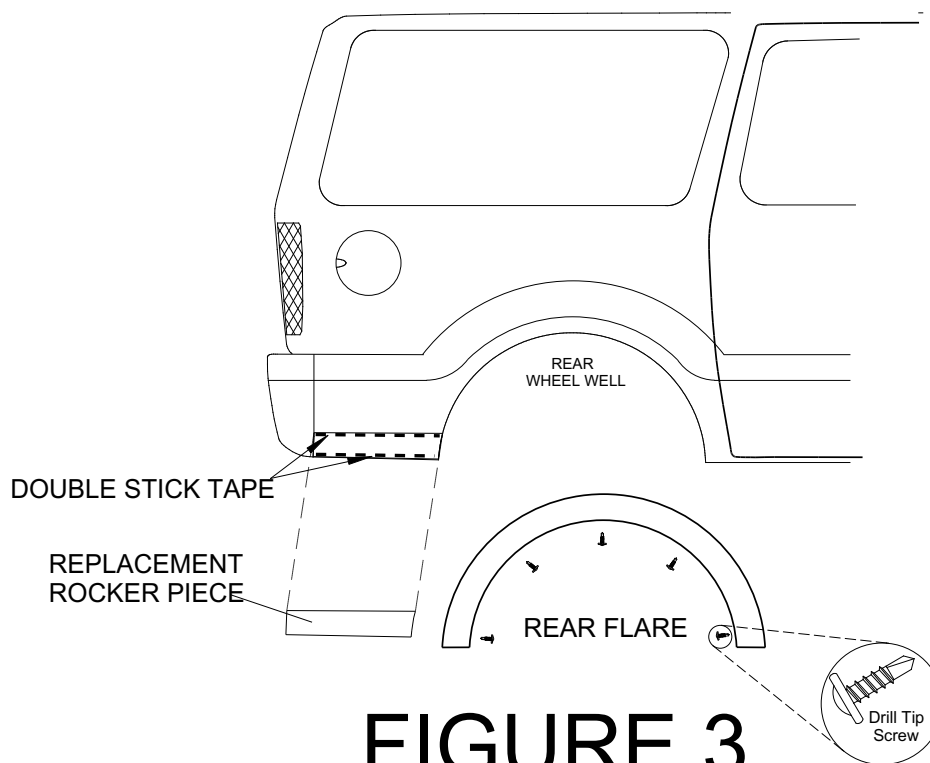

FIGURE 3
- (A) Removing factory rocker panel pieces
- (B) FOR PROPER INSTALLATION OF TAPE, the vehicle, the parts to be installed, and the tape should be between 60° and 110°F for proper adhesion.
- (C) Adhere a strip of double stick tape along the top and bottom edges of the Replacement Rocker Panel Piece. Apply 30 lbs. of pressure per inch of tape for proper bond.
- (D) Pre-drill all flares with a 3/16" drill bit using the indents formed into the flare as a guide. Applying moderate pressure to the outside surface of the rear flare, fasten with supplied drill tip screws using the indents in the flare as a guide. **See FIGURE 3.**